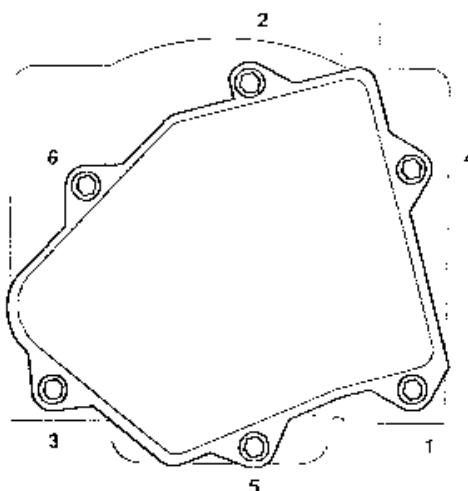

Fig. 3.36 Thermostat Cover Torque Tightening Sequence
7. Fit the six securing screws and washers and use tool Part No. 2802-8053-000 to torque tighten the screws to 2.0 Nm in the sequence illustrated in Fig. 3.36.